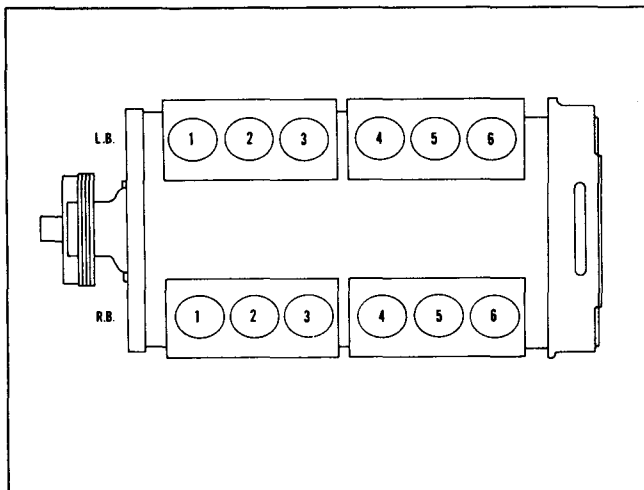

Fig. 2-47, (V414231). V-1710 piston position
6. For firing order see Table 2-11 for Inline Engines and Table 2-12 and Fig. 2-47 for V-1710 Engines.